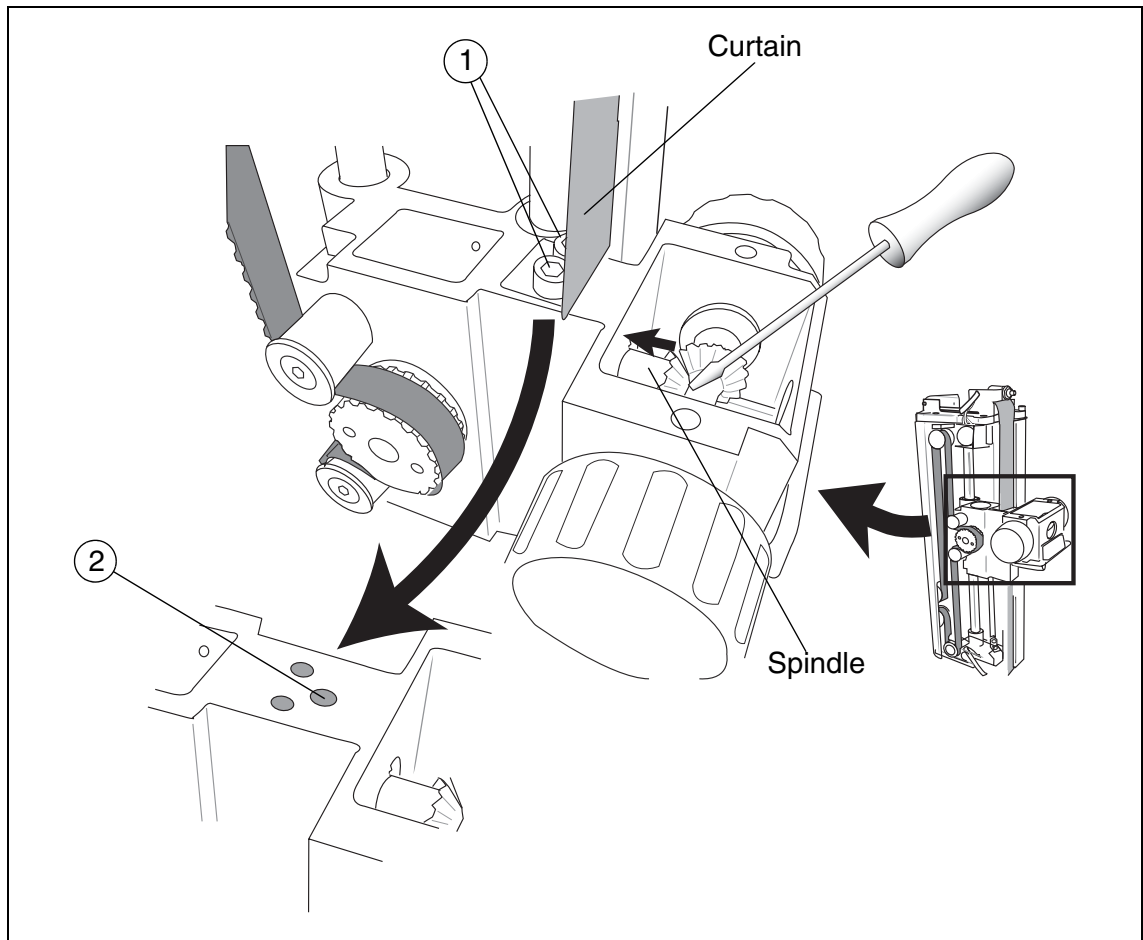

Fig. 3
- Loosen the Allen screws holding the plate that keeps the curtain in place (1/Fig. 3). Remove the plate and the curtain.
- Loosen the Allen screw securing the spindle (2/Fig. 3).